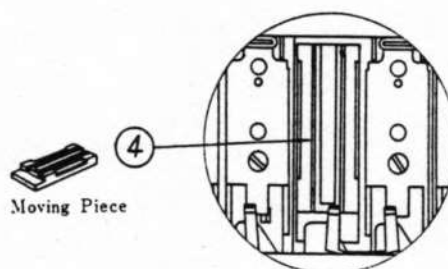

Fig. 4
4. Remove the moving piece ④ (Fig. 4).